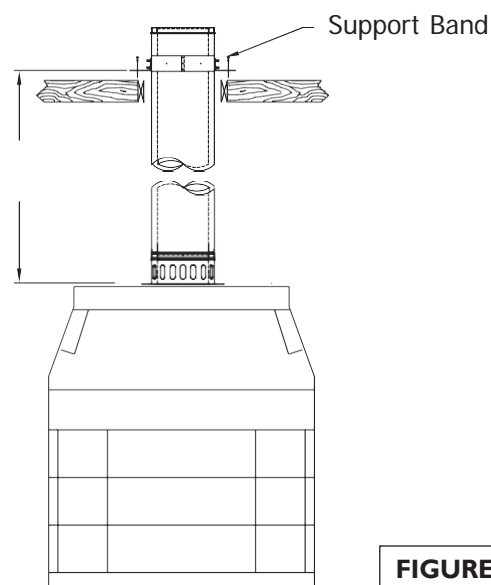

FIGURE 53
6. Angle Support and Support Band: Install a Support Band if total chimney height is greater than 50 feet, or if the fireplace manufacturer requires it. If additional support is needed, install one or more Supports which will support 30 feet of chimney. **(Figure 53)**